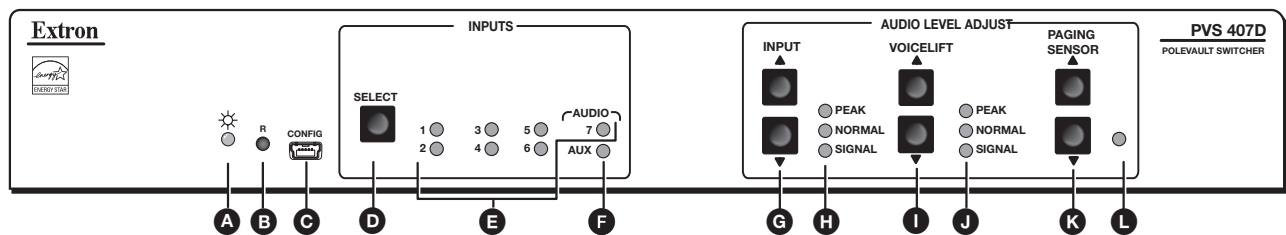

Figure 8. PVS 407D Front Panel Features
- E **Input selection LEDs (1 to 7, Aux)** (see figure 8 on page 10) — The applicable input LED lights green when that input is selected and active.
- To change inputs, toggle the input **Select** button (see figure 8, D, on the previous page) through 6 (video and audio), or input 7 (mono audio only).
The reset button on the front panel (see **figure 8** on page 10) is a small recessed switch that allows the user to put the switcher into any one of three different reset modes. The PVS 407D switcher reset modes are:
- **Mode 4:** If the reset button is held down long enough for the Status LED (see **figure 8**, **A**) to blink twice (about 6 seconds), then released and momentarily pressed again (within 1 second), the switcher resets all of its IP settings including IP address, subnet mask, gateway address, and port maps. Also, DHCP is turned off.